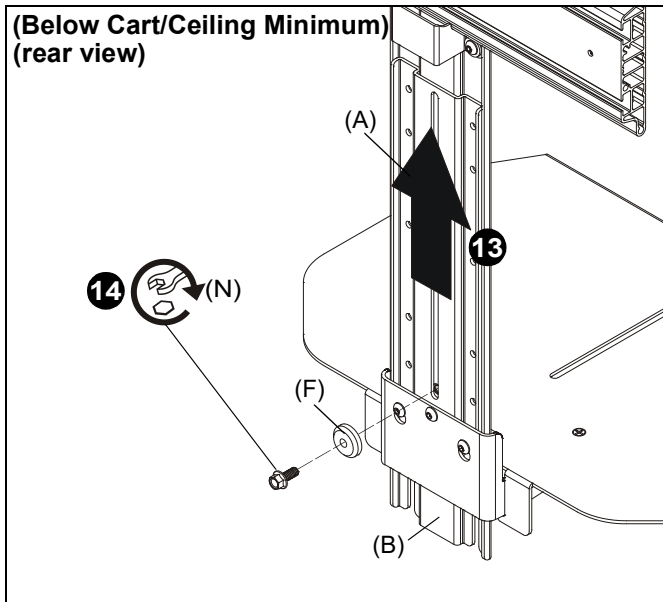

Figure 12
- 13. (For **minimum extension**) Slide upright bracket (A) behind main bracket (B). (See Figure 12)
- 14. (For **minimum extension**) Use 1/4-20 x 5/8" hex head flange bolt (N) and center washer (F) to secure upright bracket (A) to main bracket (B). (See Figure 12)